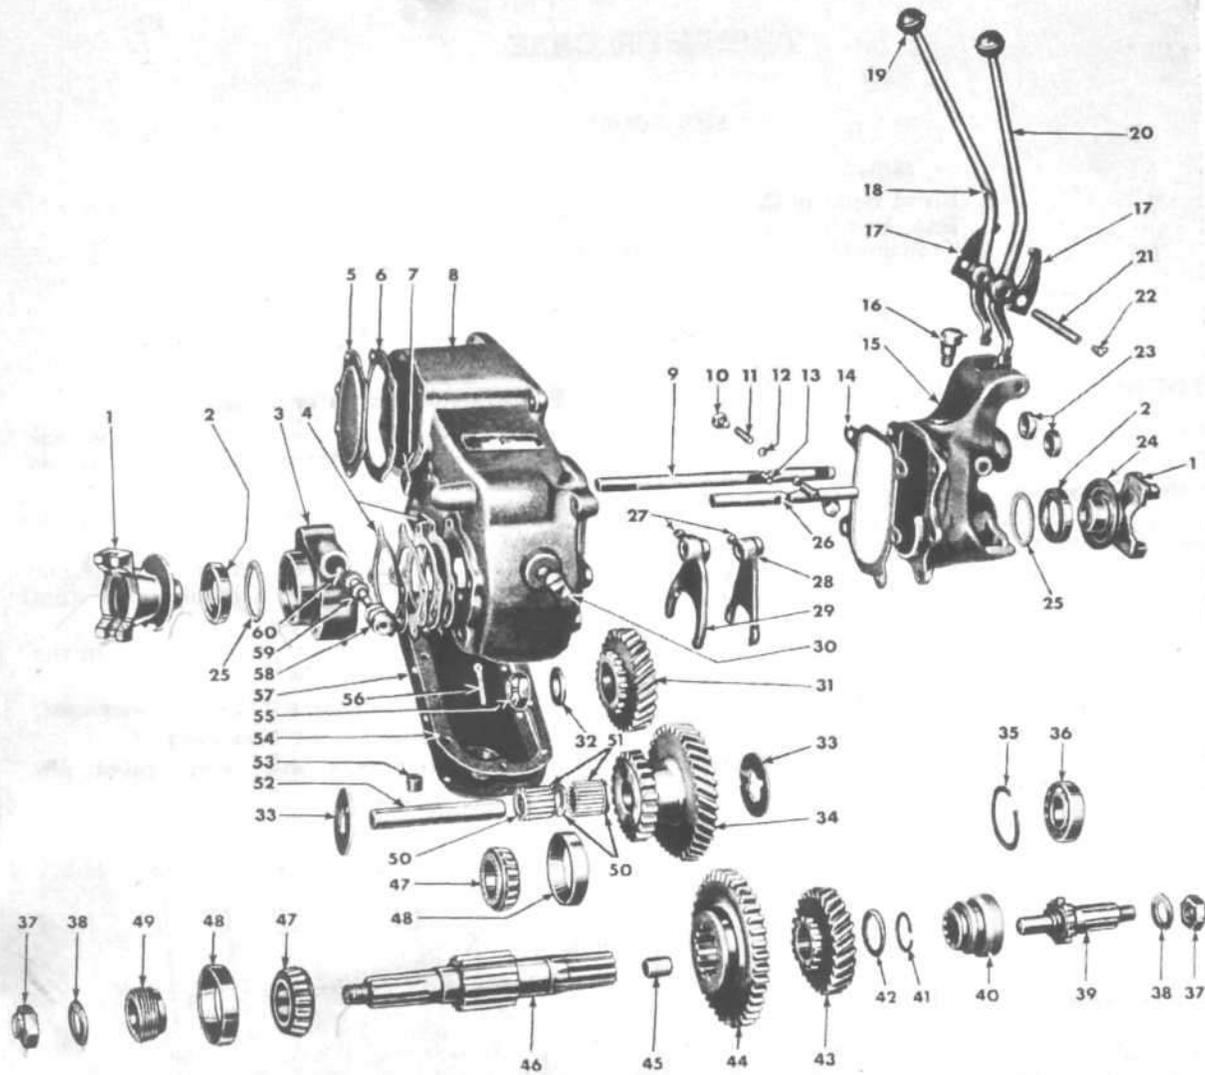

FIG. 207—TRANSFER CASE—4-WHEEL-DRIVE VEHICLES
- b. Remove lower cover screws and lock washers and remove the cover, No. 57, Fig. 207.